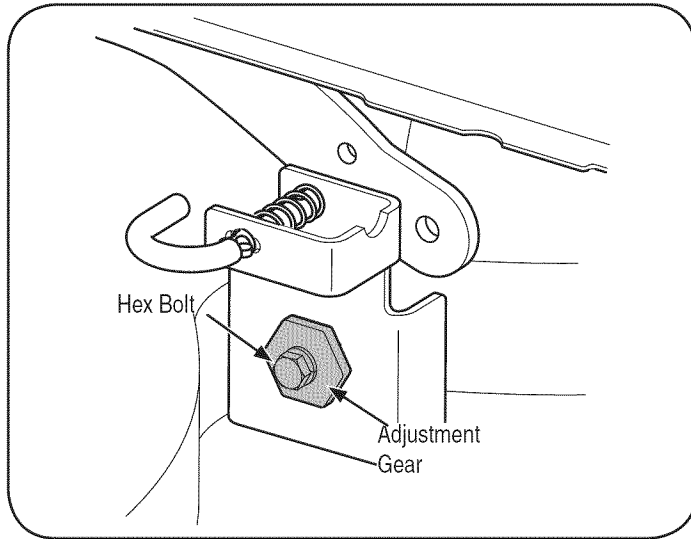

Figure 27
- Loosen, but do NOT remove, the hex bolt on the left deck hanger bracket. See Figure 27.
- Using a wrench, raise or lower the left side of the deck by turning the adjustment gear. See Figure 27.